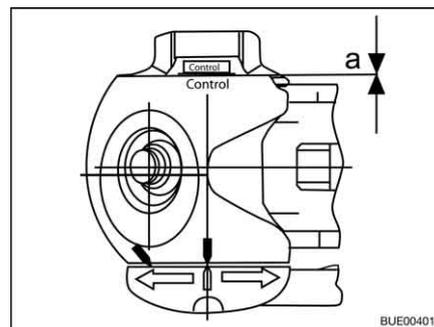

Fig. 208 Friction control
- Distance  $a = 0$  (Fig. 208): Check and, if necessary, replace the friction pads.